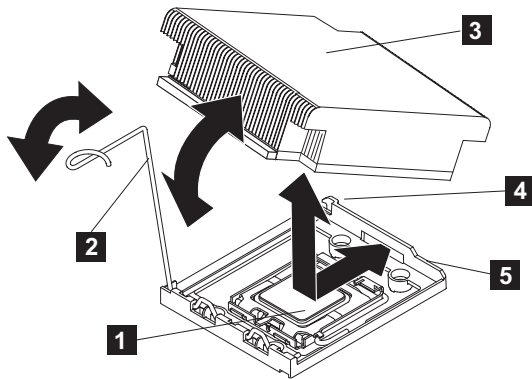

Figure 262. Installing the heat sink on the SAN Volume Controller 2145-CG8 or 2145-CF8 microprocessor
8. Align the heat sink on top of the microprocessor, as shown in Figure 262.